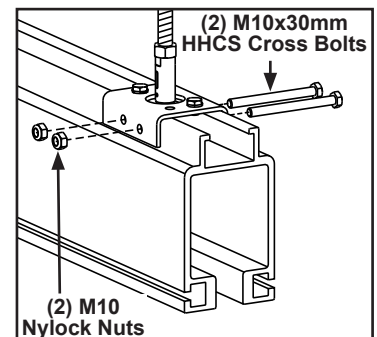

Figure 3-72
- Step 3. Install two (2) M10 x 100 mm HHCS with M10 nylock nuts. **Tighten until bolts are snug + 1/4 turn.** Do not over tighten. Over tightening could cause bracket to bend. See Figure 3-72.